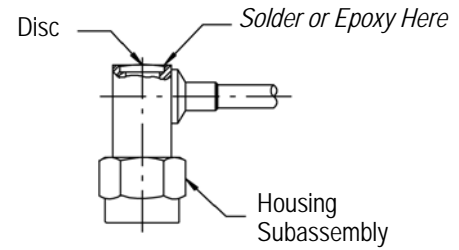

Figure 6
7. Press the disc into the opening at the back of the housing subassembly. Refer to Figure 6, and seal the opening as follows: